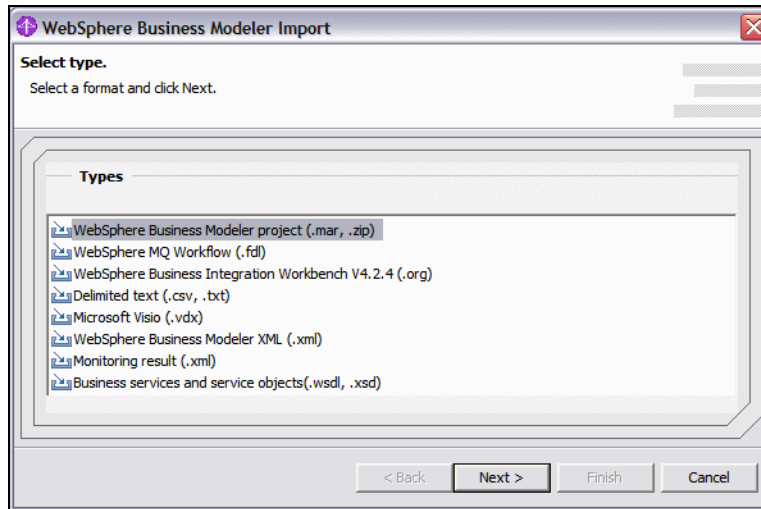

Figure 5-2 Select model import type
- ▶ Select *WebSphere Business Modeler project* and click *Next* (Figure 5-2).